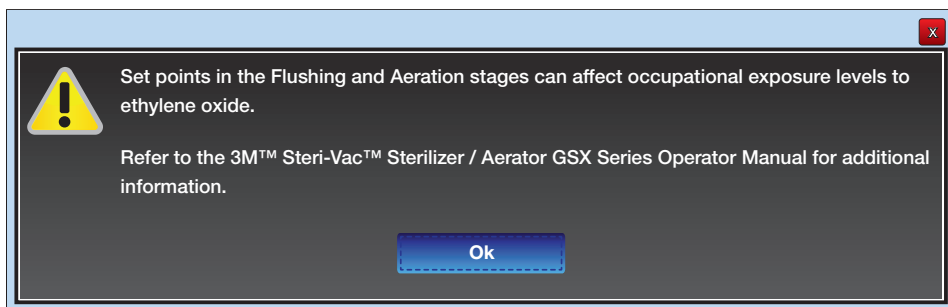

Figure 37.
- Each time the 3M Cycle Programmer is opened, the user must be aware that Flushing and Aeration stages affect occupational exposure levels of ethylene oxide (EO), therefore the user must acknowledge this safety feature prior to creating or modifying a custom EO cycle. (Figure 37).